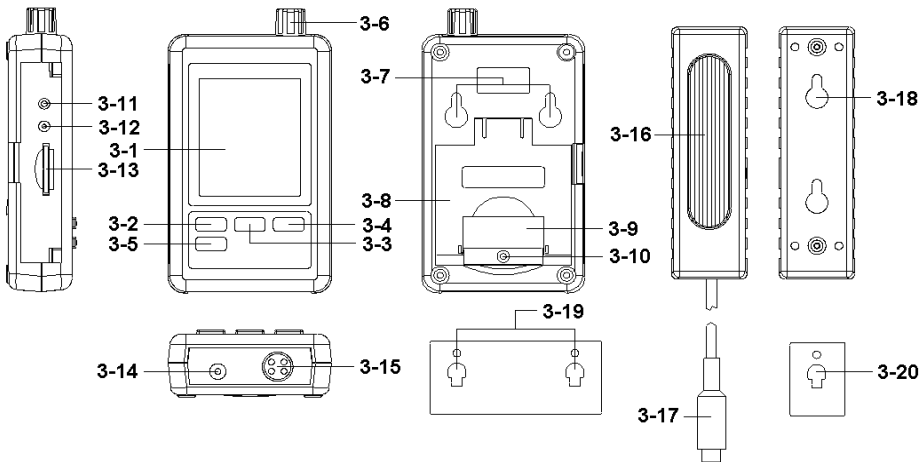

Fig. 1
- 1) Plug the " Output plug " of " AC/DC 9V adapter " to " DC 9V power input socket (3-14, Fig. 1), plug the " Input plug " of the " AC/DC 9V adapter " into a properly AC outlet (AC 100 V to 240 V) following.
- 2) The " Display " (3-1, Fig. 1) will show both the CO₂, Humidity and Temperature value at the same time.
It recommend to install the batteries DC 1.5 V battery (UM4, AAA) x 6 PCs into the " Battery compartment " (3-9, Fig. 1) for clock time base backup. If do not install those batteries, the internal clock may can not run properly after the meter is disconnect from the " AC/DC 9V adapter " for a certain period.
Prepare a " SD memory card " (1 GB to 16 GB, optional), insert the SD card into the " SD card socket " (3-13, Fig. 1) with the correct direction exactly.
Press the " Logger button (3-2, Fig. 1) > 2 seconds continuously, until the Display show the indicator " DATALOGGER ", release the " Logger Button " (3-2, Fig. 1), then the measuring data along the time information will be saved into the memory circuit.
During execute the Datalogger function (Display show the " Datalogger " indicator), press the " Logger button " (3-2, Fig. 1) > 2 seconds continuously, until the Display indicator " DATALOGGER " is disappeared, release the " Logger Button " will finish the Datalogger function.
Press " Time button " (3-3, Fig. 1) > 2 seconds continuously, the LCD display will present the time information of Year/Month/Date, Hour/Minute/Second and the sampling value.
- 1) After execute the Data Logger function, take away the SD card out from the " SD card socket " (3-13, Fig. 1).